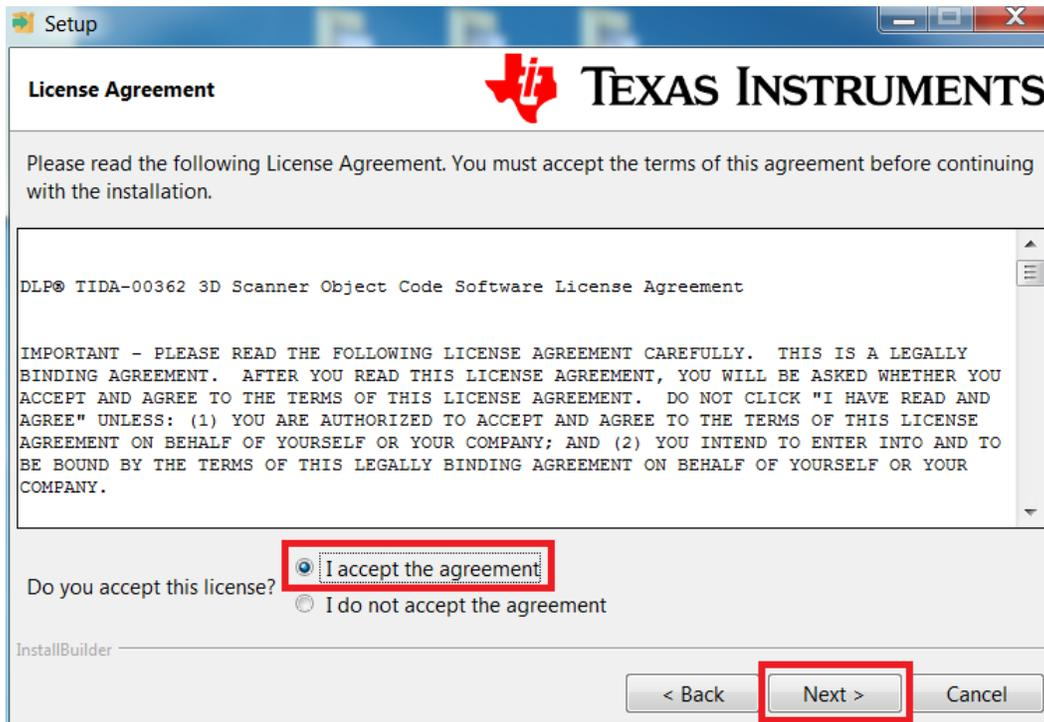

Figure 2-21. 3D Scanner Reference Design License Agreement Screen
4. Read and review the license agreement for the 3D Scanner Reference Design, as shown in Figure 2-21. Click the "I accept the agreement" radio button and then click the "Next" button to continue installing the software.